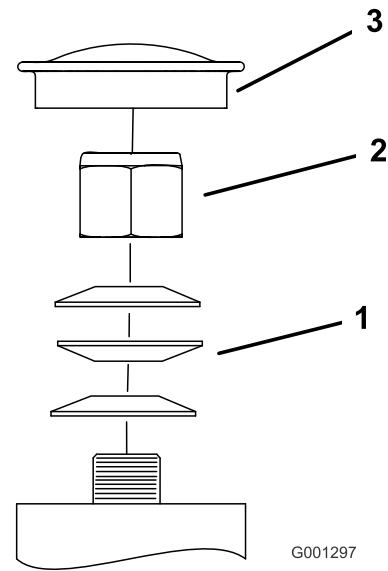

Figure 66
3. Remove the dust cap from caster and tighten locknut (**Figure 66**).
4. Tighten the locknut until the spring washers are flat and then back off a 1/4 turn to properly set the preload on the bearings (**Figure 66**).
Important: Make sure the spring washers are installed correctly as shown in **Figure 66**.
5. Install the dust cap (**Figure 66**).